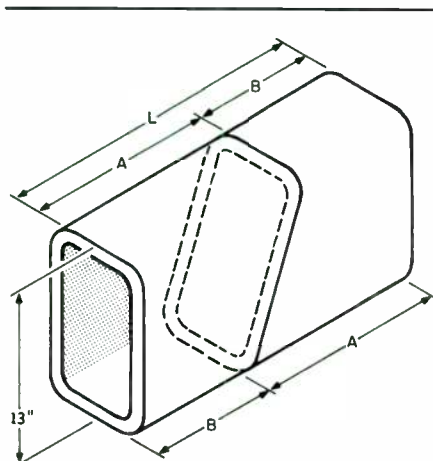

FIGURE 1: Dimensions of cut tile for various slopes. (Length of tile can vary.)
**BOX CONSTRUCTION.** One advantage of using a tile enclosure is that the basic box is ready-made. After playing around with several possible designs, I decided to make a box with a sloping speaker board. But how much slope? My first idea was to place the enclosures rather low in the room because of their weight, so I planned for a 20° slope. A 15° slope might be better in some situations, for instance, if the speakers are placed with their bases about 24" above the floor. Figure 1 is a cutting guide for the different slopes (see Table 1 for dimensions).